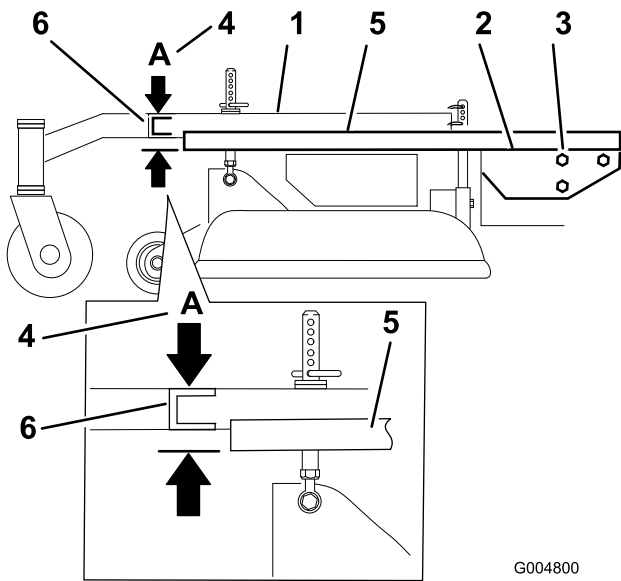

Figure 52
- Place a long straight edge on top of the engine deck as shown in Figure 52.
- At the carrier frame cross channel, measure the height at location A (Figure 52).
6. Loosen the carrier frame mounting bolts on both sides of the machine (Figure 52).
7. Align the carrier frame and engine deck to match 33 mm (1-5/16 inch) plus or minus a 6 mm (1/4 inch) at location **A** (Figure 52).